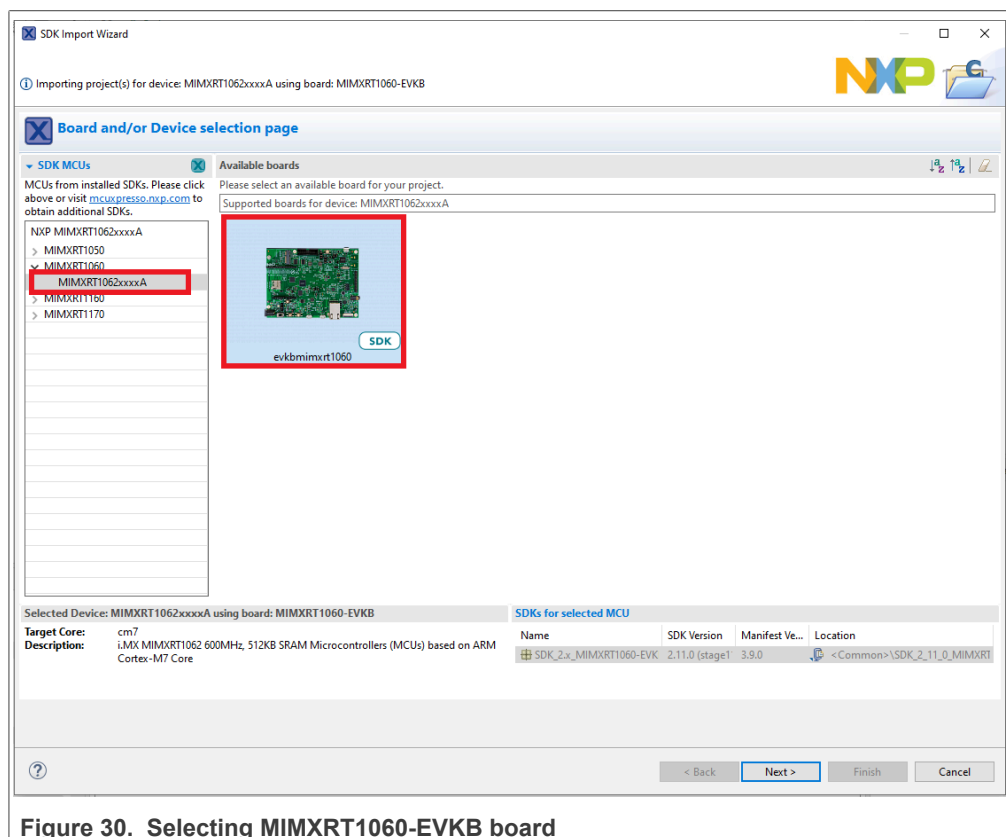

Figure 30. Selecting MIMXRT1060-EVKB board
3. In the window that appears, expand the **MIMXRT1060** folder and select. Then, select **evkbmimxrt1060** and click **Next**, as shown in Figure 30.